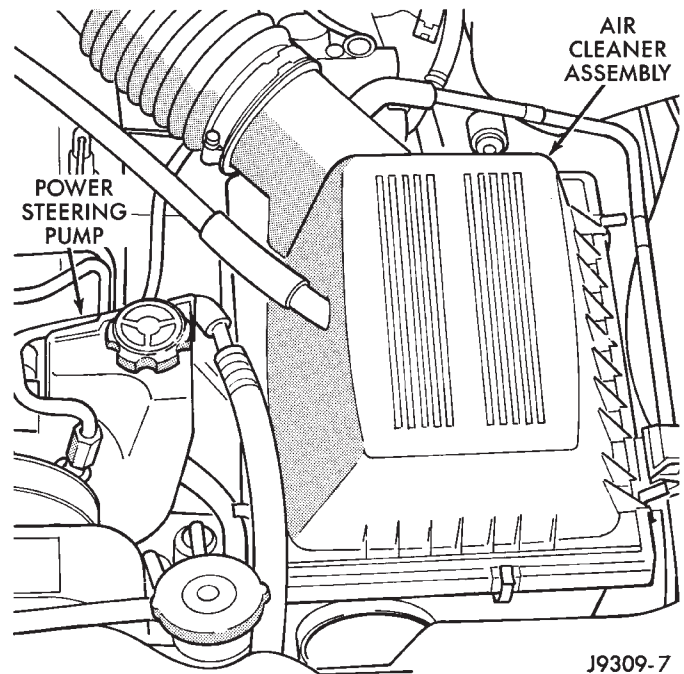

Fig. 31 Air Cleaner Assembly & Power Steering Pump
(21) Remove the fuel line bracket from the intake manifold.
(22) Remove the air cleaner assembly (Fig. 31).
(23) Disconnect the hoses from the fittings at the steering gear.
(24) Drain the pump reservoir.
(25) Cap the fittings on the hoses and steering gear to prevent foreign objects from entering the system.
(26) Raise and support the vehicle.
(27) Disconnect the wires from the engine starter motor solenoid.
(28) Remove the engine starter motor.
(29) Disconnect the oxygen sensor from the exhaust pipe.
(30) Disconnect the exhaust pipe from the manifold.